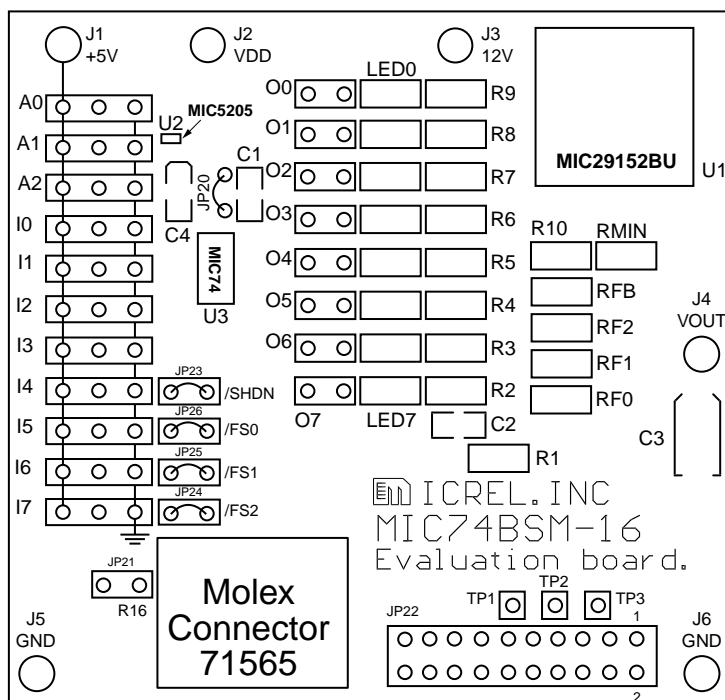

Figure 4. Fan Configuration
1. Remove the eight jumpers from JP1 - JP8 and use four of the jumpers to short JP23 - JP26. See Figure 4 below.